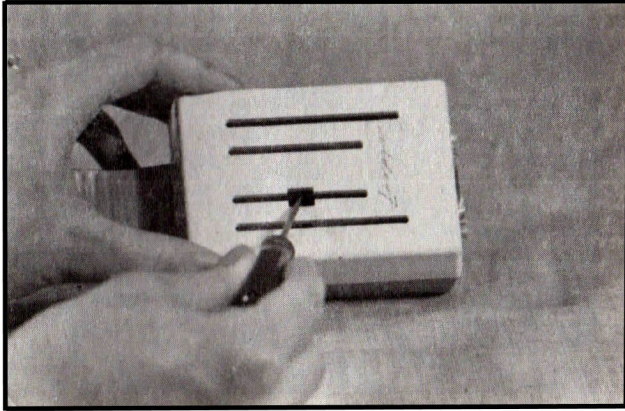

Figure 1. Setting the text color switches using a thin screw driver.
The RGB Interface simulates monitors of different color phosphorous. Highlighting of inverse text however, is always done in white to accentuate the highlighted text. If you are accustomed to doing your word processing in either green, blue, amber, or white, you may select that text color by setting the two switches inside the box with a thin screw driver as shown in Figure 1 as follows:
2. Remove the RGB Interface from its package and set the text color switches to your preferred color as shown in Figure 1 and as explained in section 1.1.3.